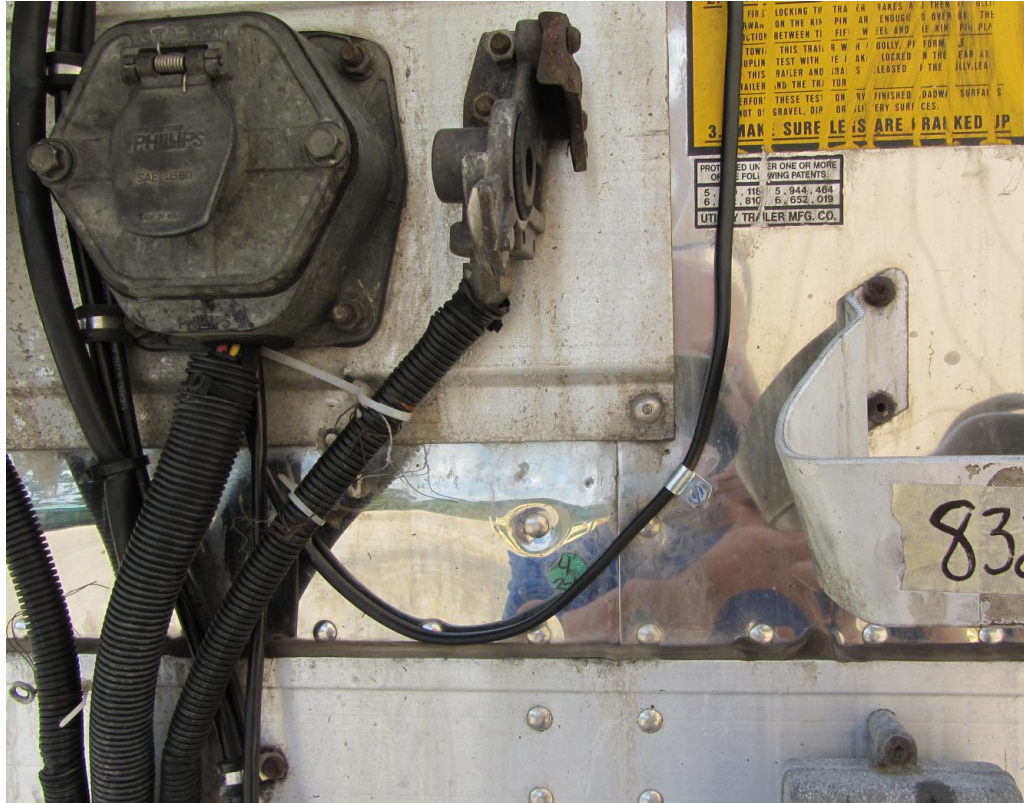

Figure 34
IMPORTANT: Make sure that as you are installing the p-clamps you run the wire with a drip loop in the bottom of cable below the 7 pin connector box. This keeps water from running down the cable from the indicator light into the electrical box. See Figure 34
- Use tie wraps to attach 3 wire cable and wire cable from the light indicator to the airlines leading out of the 7 pin connector box. See Figure 34
- Place decals on front of trailer by the indicator light and on the inside and outside of the control box cover. See Figure 34